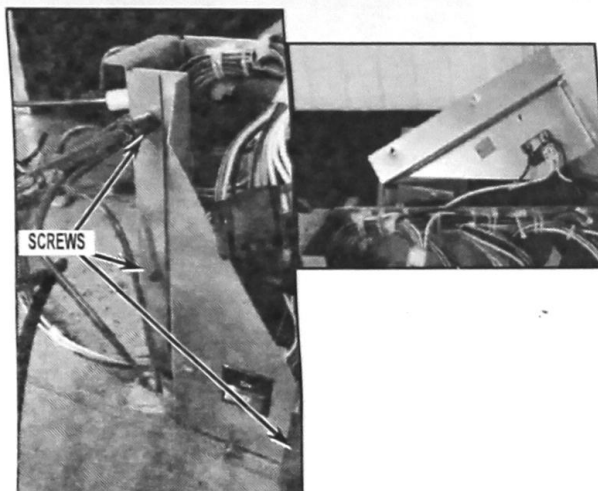

FIGURE 16
21. Remove 3 switch plate mounting screws. Move switch plate to give space for making wiring connections and removing old HV board. See Figure 16.